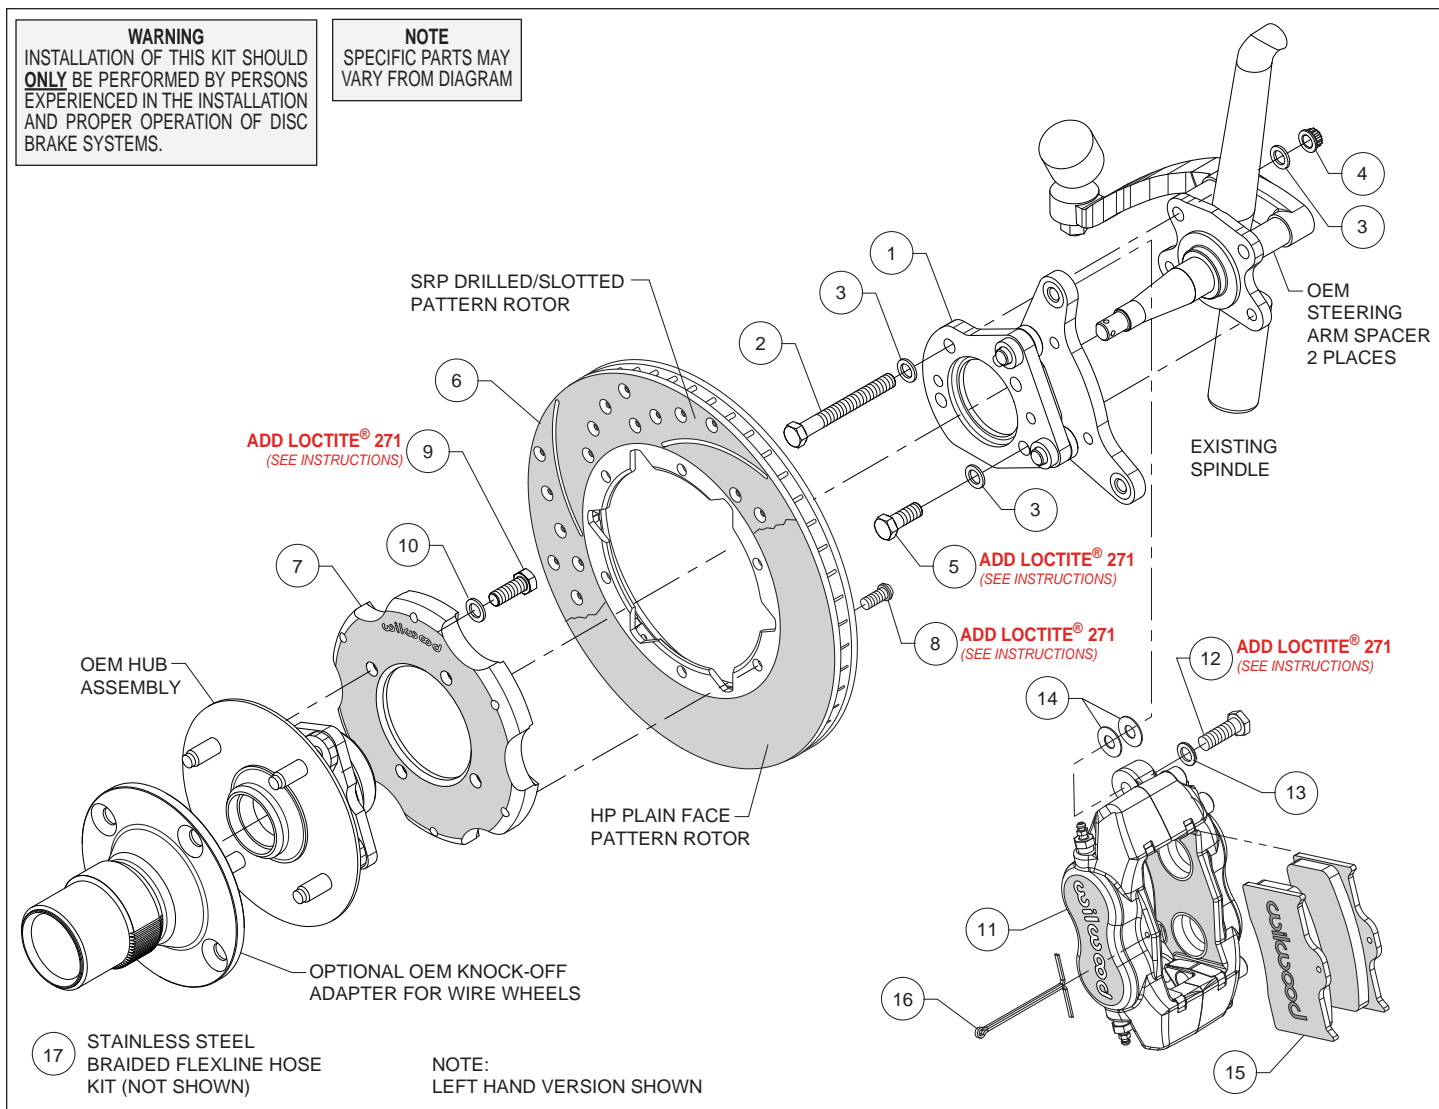
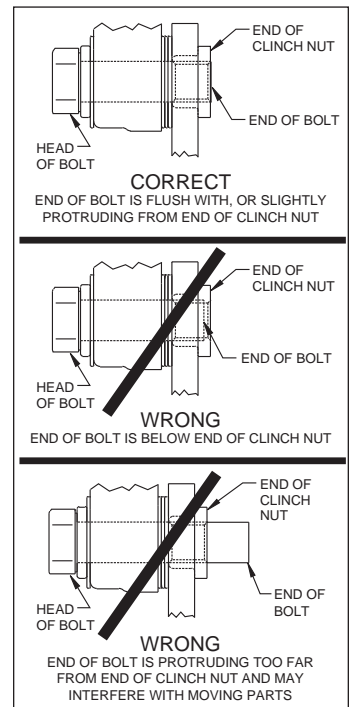

Figure 1. Typical Installation Configuration
Figure 3. Clinch Nut Engagement Diagram
**Assembly Instructions** (numbers in parenthesis refer to the parts list and Figure 1 on the preceding pages): **CAUTION:** All mounting bolts must fully engage clinch nuts. Be sure to check that all bolts are either flush or protruding through flanged side of clinch nut after shimming, Figure 3.
- Orient the caliper mount bracket (1) as shown in Figure 1 and Photo 1, and install using bolts (2), washers (3) and nuts (4) on the upper bracket mounting holes, reinstalling the stock steering arm spacers between the new bracket and the steering arm. Install bolts (5) and washers (3) on the bottom bracket mounting holes. Ensure that the flanged heads of the clinch nuts in the bracket are facing outboard, Photo 1. Temporarily tighten the mounting bolts. **NOTE:** The bracket must fit squarely against the face of the spindle. Inspect for interference from casting irregularities, machining ridges, burrs, etc. Torque locknuts (4) to 30 ft-lb. Remove lower bolts (5) one at a time, apply red *Loctite*® 271 to the threads and torque to 30 ft-lb.
- Orient the rotor (6) and the hat (7) as shown in Figure 1 and Photo 2. Attach rotor to hat using bolts (8). Using an alternating sequence, apply red *Loctite*® 271 to the threads, and torque to 25 ft-lbs.
- Orient the rotor/hat assembly (6 and 7) and the OEM hub assembly as shown in Figure 1. Attach rotor/hat to the back of the stock hub using bolts (9) and washers (10). **NOTE:** The hat must fit flush against the hub or excessive rotor run out may result. Apply red *Loctite*® 271 to the threads, and torque to 30 ft-lbs.
- Install the hat/rotor/hub assembly onto the spindle using OEM components assembled in the reverse order as disassembly, Photo 3. Snug down the spindle nut and check for interference between the bracket (1) assembly bolts protruding thru the clinch nuts and the hat/hub mounting bolts (9) hex heads. Once fitment has been confirmed, adjust bearings per OEM specifications.
- **NOTE:** Please reference the caution statement at the beginning of the assembly instructions. Mount the caliper (11) onto the caliper mounting bracket (1) using bolts (12) and washers (13), as shown in Figure 1. Initially place two .035" thick shims (14) on each bolt between the caliper and the bracket, Photo 4. Temporarily tighten the mounting bolts and view the rotor (6) through the top opening of the caliper. The rotor should be centered in the caliper, Photo 5. If not, adjust by adding or subtracting shims (14) between the bracket and the caliper.
Always use the same amount of shims on each of the two mounting bolts. **NOTE:** The end of each bolt must be flush with or slightly protruding from the head of the clinch nut, as shown in Figure 3. If necessary place spare shims between washer (13) and caliper mounting ear to achieve the proper clinch nut engagement. Once the caliper alignment and clinch nut engagement are correct, remove the bolts (12) one at a time, apply red *Loctite*® 271 to bolt threads, and torque to 40 ft-lb.